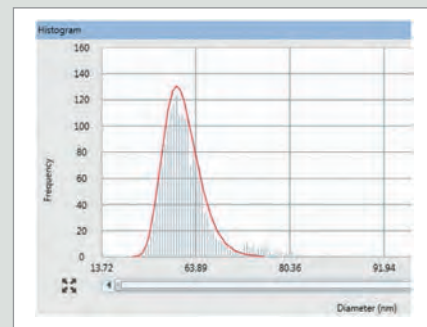

Figure 3: A size distribution histogram of 60 nm diameter gold particles showing frequency of ion pulses (events) plotted against nanoparticle diameter.
Once generated, the signal intensity as a function of time can then be processed using a theoretical approach, first developed by Duegeldre and co-workers (3). In this approach, a histogram of NP diameter versus number of events (NP frequency/number) is generated in order to characterize the NP distribution in the sample. Figure 3 shows a size distribution histogram of 60 nm gold particles, with frequency of ion pulses (events) plotted against nanoparticle diameter, generated using PerkinElmer's Syngistix Nano Application Software Module \(4\).